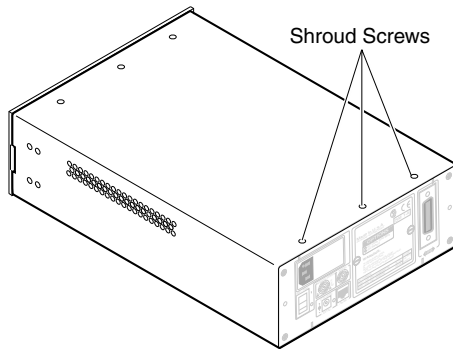

Figure 3-5 Top Rear Shroud Screws
- 3 Use a #1 Phillips screwdriver to remove the three 4-40 x 3/16-inch countersunk shroud screws on the top of the Counter near the back edge of the shroud (see Figure 3-5).